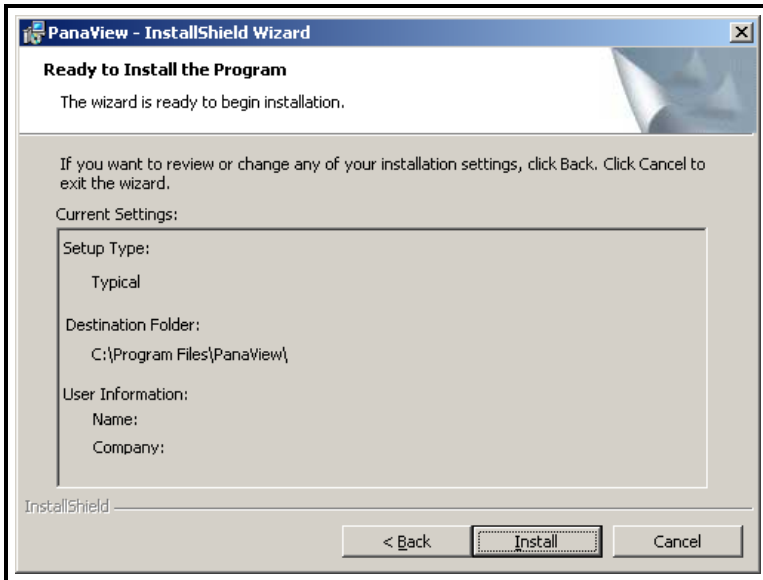

Figure 2-10: Start Installation Screen
8. The screen shown in Figure 2-10 below lists the entries made at the previous screens. Press the [Next] button to begin installing the PanaView files.